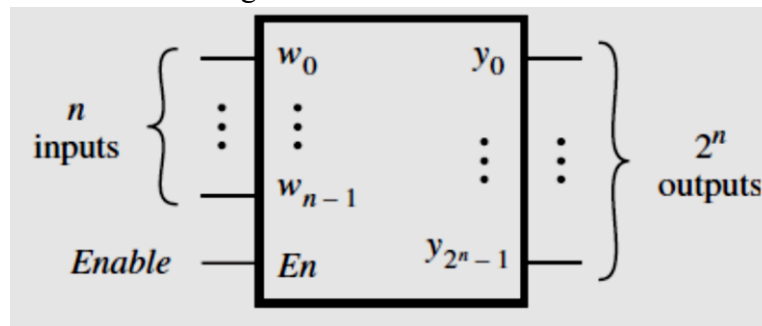

Figure 6.1 Decoder
- A binary decoder, depicted in Fig. 6.1, is a logic circuit with n inputs and 2^n outputs.